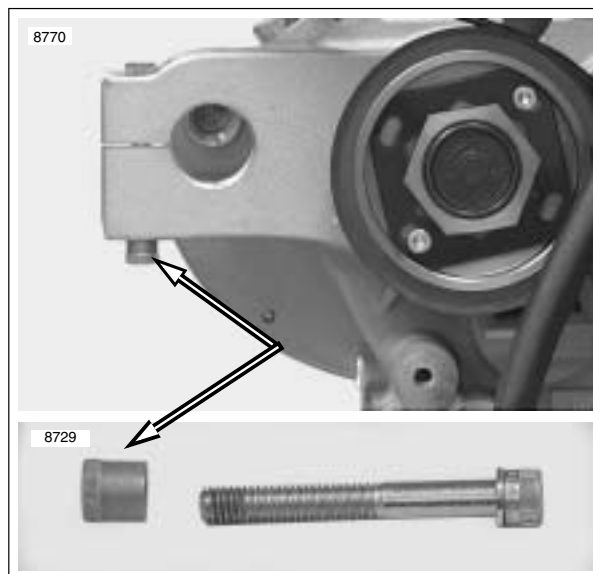

Figure 3-35. Threaded Insert
- c. See Figure 3-35. Apply LOCTITE 242 (blue) to swingarm pivot shaft pinch bolt threaded insert and install.